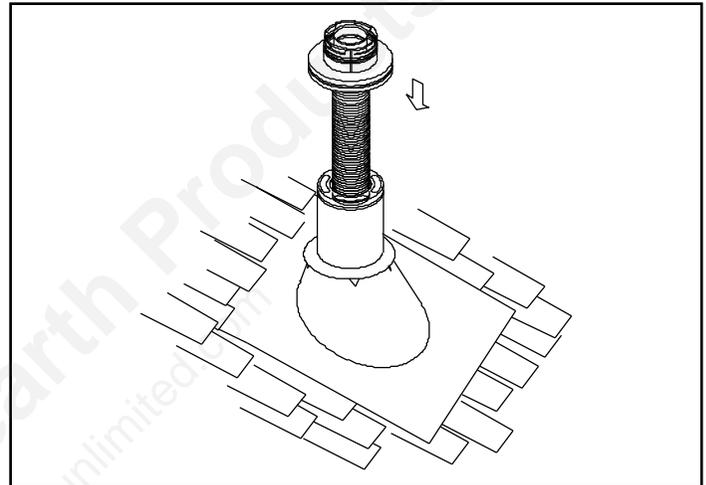

Figure 4.20
4. Pass the flex pipe down through the center of the chimney system, and center the top adaptor on the top of the chimney pipe. Drill four 1/8 in. (3mm) diameter holes through the top adaptor, and into the chimney top. Ensure that you are drilling into the metal on the chimney. Twist lock the high wind termination cap onto the top adaptor. See Figure 4.20 and Figure 4.21.